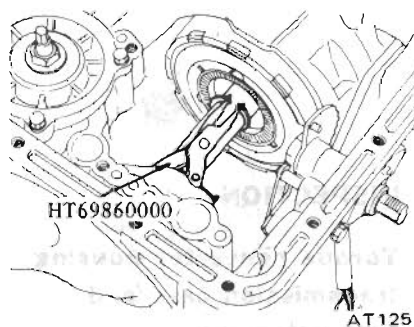

Fig. AT-59 Removing snap ring
12. With the aid of Snap Ring Remover HT69860000, pry snap ring off output shaft. See Figure AT-59.